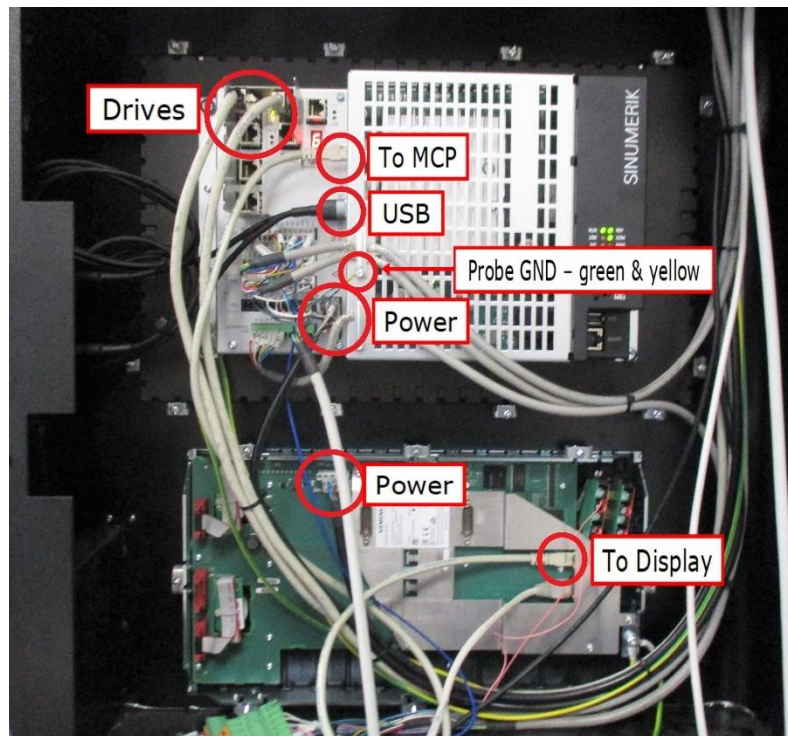

Figure 3.1 MCP Connections
2. Check network cable connection from PPU to MCP see figure 3.1.